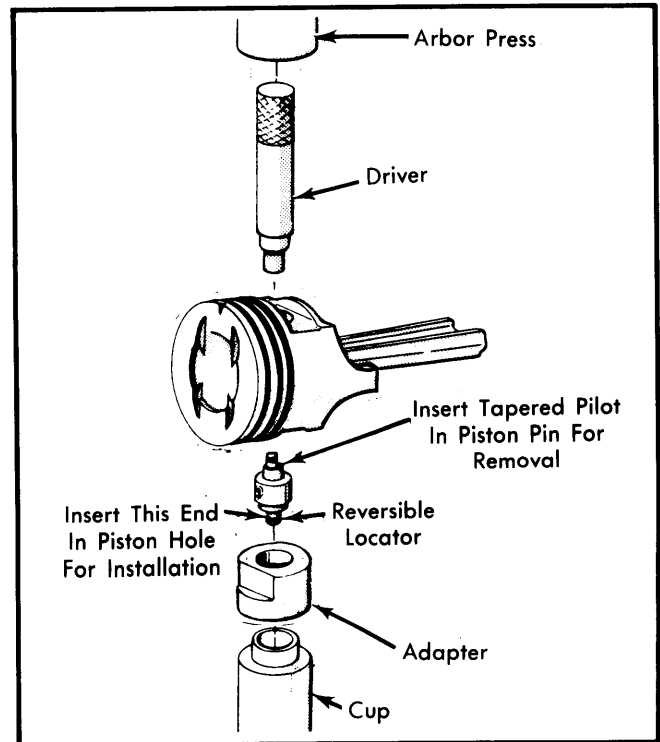

Fig. 8 Removing and Installing Piston Pin
**Installation** — Light tap with mallet may be needed to start pin into piston and rod assembly. Using arbor press and pilot tool, press pin into piston and rod assembly until pin centers in piston. See Fig. 8.